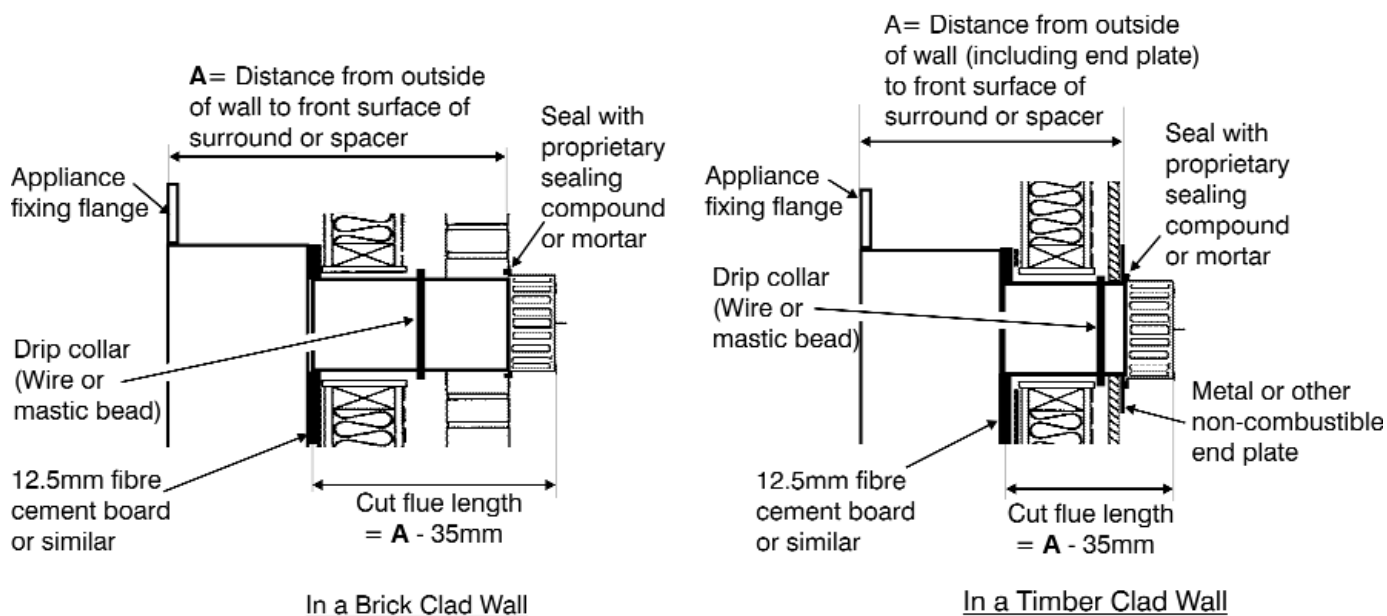

Figure 17. Flue unit installation - Timber framed building.
positioned so that it will be located in the centre of the wall cavity (See figure 17). The drip collar can be made by wrapping a non-corrosive wire round the flue or moulding a bead of mastic round the flue.
- Timber frame building with combustible outer leaf (e.g. shiplap boarding): A metal or other non-combustible end plate must be fitted on the outside of the wall. The plate must be concentric with the flue and at least 254mm (10in) square or diameter (See figure 17).